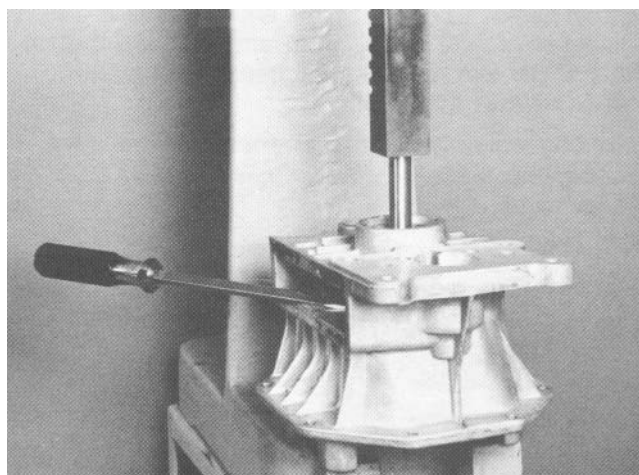

Figure 20
12. Position the housing assembly on a suitable press. Place a 1/8 inch (3 mm) piece of steel or a screwdriver blade under the edge of the spur gear. This will prevent the spur gear from cocking and possibly cracking the housing (Fig. 20).